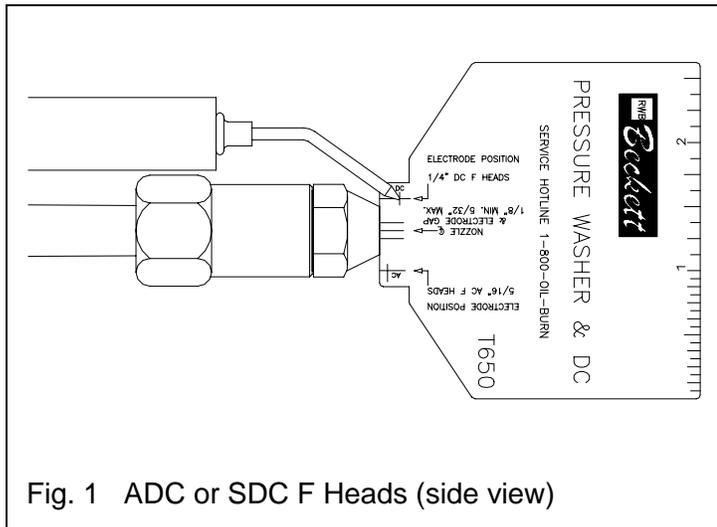
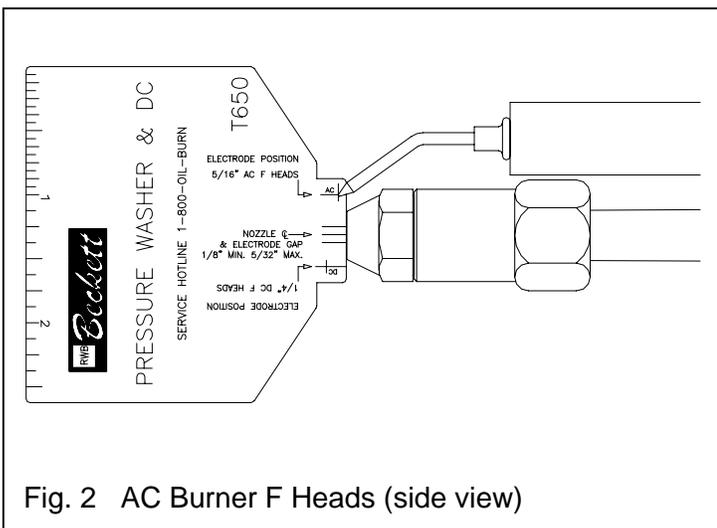

Fig. 1 ADC or SDC F Heads (side view)
Fig. 2 AC Burner F Heads (side view)
1. To position the electrode tips **in front of** the face of the nozzle and **above** the center line, select the cross mark for the burner being serviced, DC (direct current) **Fig. 1** or AC (alternating current), **Fig. 2**. You will be setting only one of the tips. After setting, proceed to Step 3. **Be careful not to scratch the nozzle face.**
DC burner F head settings are set by aligning the electrode tip with the (1/4") cross mark shown in **Fig. 1**.
2. AC burner F head settings are set by aligning the electrode tip with the (5/16") cross mark shown in **Fig. 2**.